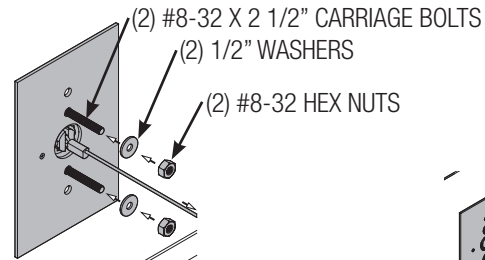

FIG. 3.5
From the inside of door, slide (1) 1/2” washer onto each of the #8-32 X 2 1/2” carriage bolts, as shown in **FIG. 3.5**. Secure the base to the backup plate with (2) #8-32 hex nuts, as shown in **FIG. 3.5** and **3.6**.